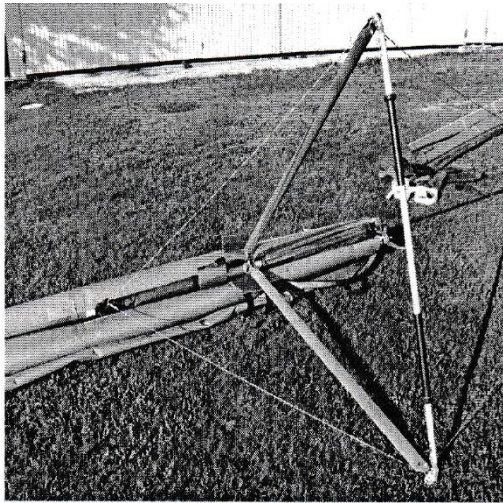

Figure 6
4. Turn the wing on one side and spread the control frame down tubes. Install the control bar according to the markings. Fix the control bar with bolts and nuts so, that fixing nuts are pointing backwards, against the direction of flight (fig.6).